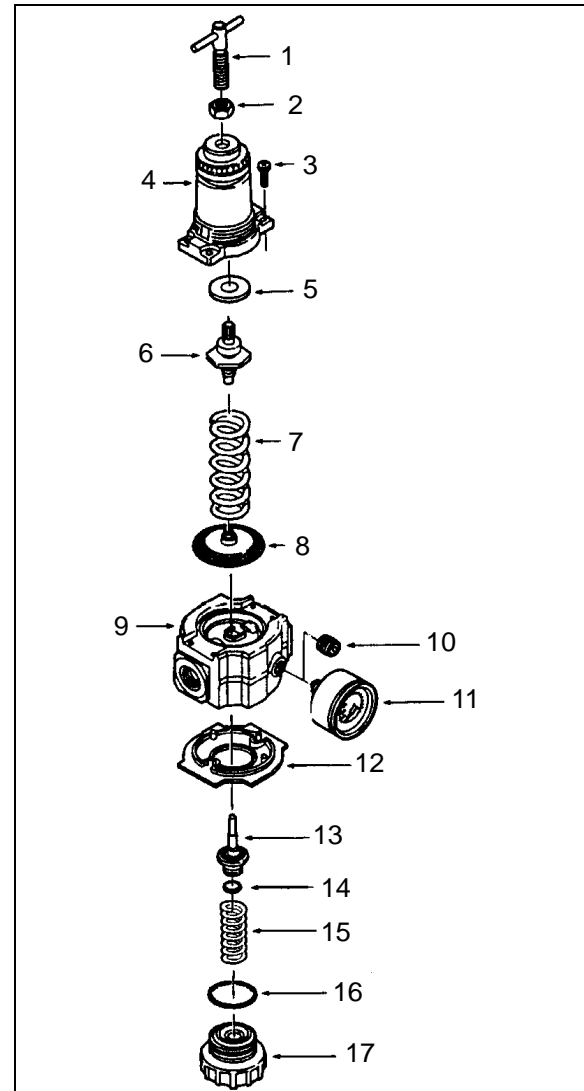

FIGURE 53: REGULATING VALVE 16035
1. Before turning on system air pressure, release jam nut (2, Fig. 53) then turn regulator adjustment counterclockwise until all load is removed from the regulating spring.
5. Tighten jam nut (2, Fig. 53) to lock pressure setting.
1. Shut off inlet pressure and reduce pressure in inlet and outlet lines to zero. Turn regulator adjustment (1, Fig. 53) counterclockwise until all load is removed from regulating spring. Regulator can be disassembled without removal from air line.
1. Lubricate O-ring (14 and 16, Fig. 53), valve stem (13, Fig. 53), tip of adjusting screw (1, Fig. 53), and the outer circumference and both sides of the thrust washer (9, Fig. 53) with a light coat of good quality O-ring grease.